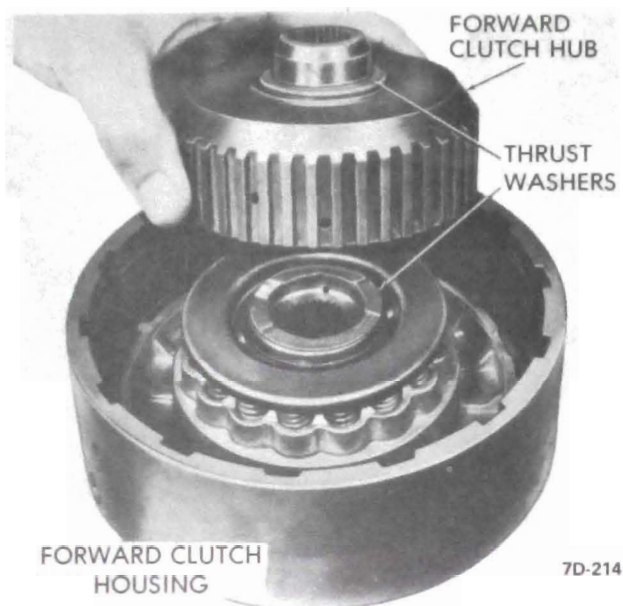

Figure 7D-143
9. Place forward clutch hub into forward clutch housing. See Figure 7D-143.